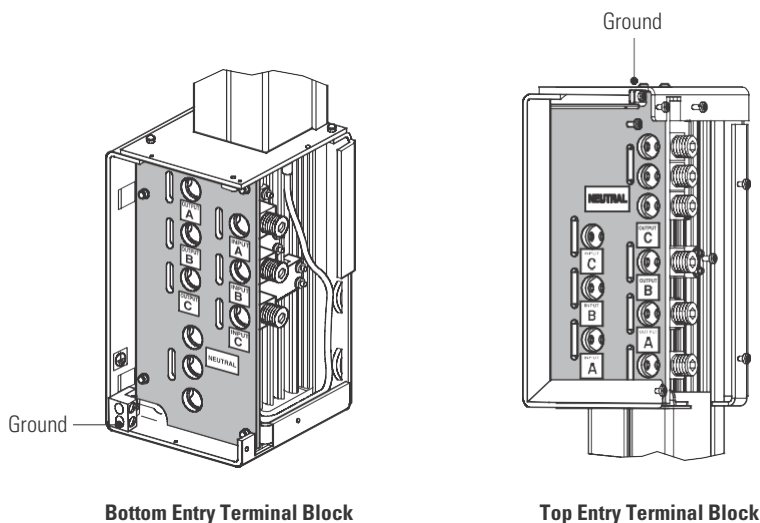

Figure 45. BladeUPS Bar Terminal Block
- Pull approved electrical conductors for the system, and connect the input, output, and ground wires to the BladeUPS Bar top entry terminal block according to Figure 45 and Figure 7.